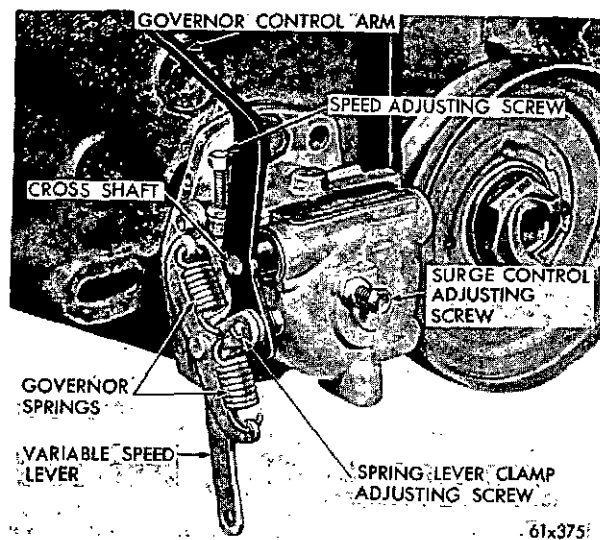

Figure 55 — Governor Adjustments Hoof Type
**THROTTLE TO GOVERNOR ROD (Hoof).** (Fig. 55) Adjust the length of the rod so that the throttle lever on the carburetor contacts the stop just as the governor lever is at the wide open position. Test the operation of the rod for friction or excessive free play and adjust, if necessary, at the ball joint.